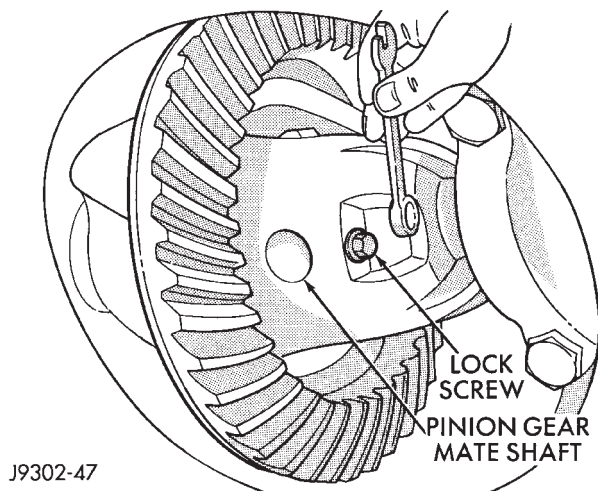

Fig. 53 Mate Shaft Lock Screw
(3) Remove ring gear, if necessary. Ring gear removal is necessary only if the ring gear is to be replaced. The Trac-lok™ differential can be serviced with the ring gear installed.
(4) Remove the pinion gear mate shaft lock screw (Fig. 53).